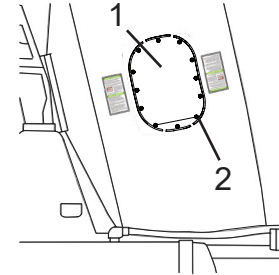

Figure 153
4. If the drum hatch is the oval hatch, remove the 12 drum hatch bolts (Figure 153, Item 1), and remove the drum hatch (Figure 153, Item 2).
9. **For the oval hatch only:** Install the drum hatch (Figure 153, Item 1). Loosely install 12 drum hatch bolts (Figure 153, Item 2).